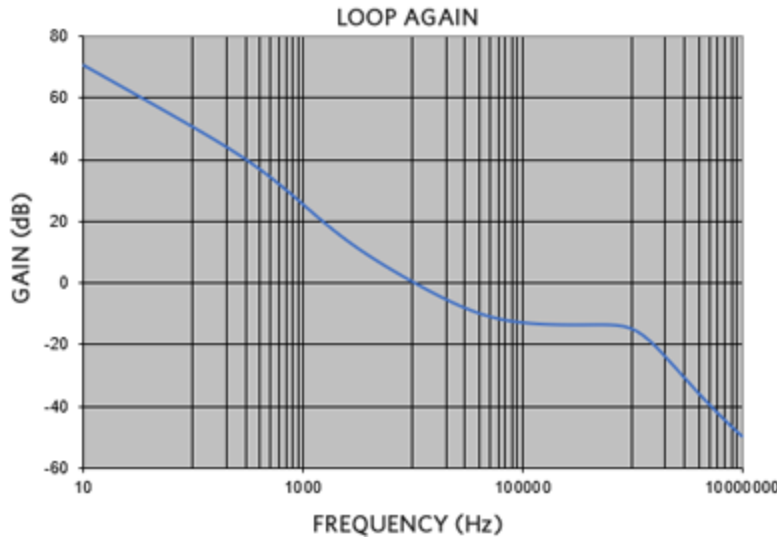
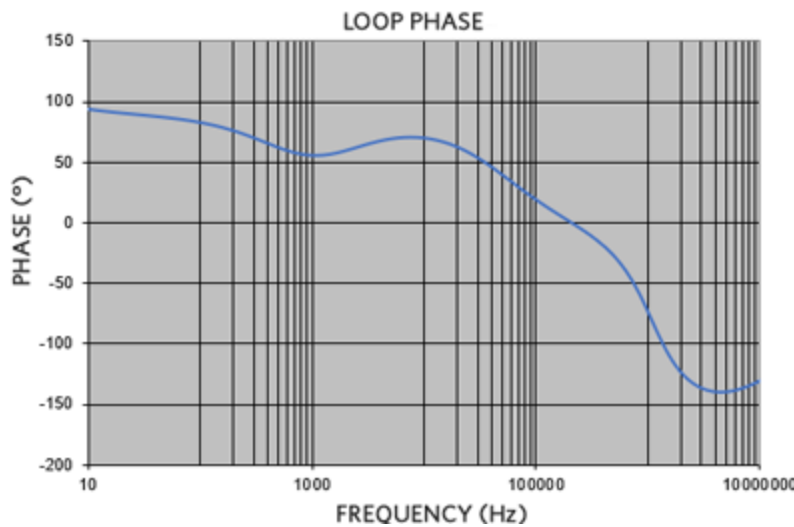

Figure 4. Loop gain.
Figure 5. Loop phase.
Figure 4 and Figure 5 illustrate the Bode plots of the LED driver closed loop response. A 0-dB crossing frequency ( $f_C$ ) of 10kHz and a phase margin (PM) of 70 degrees are obtained.